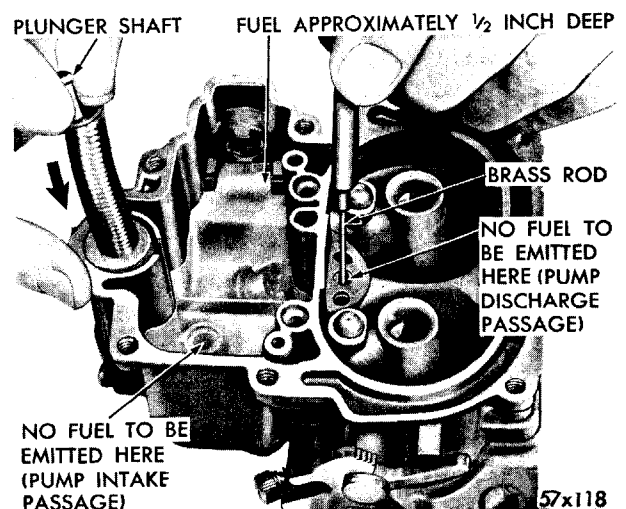

Fig. 18—Testing Accelerator Pump Intake and Discharge Check Balls
(2) Using a small clean brass rod, hold the discharge check ball firmly down on its seat. Again raise the plunger and press downward. No fuel should be emitted from either the intake or discharge passage, as shown in Figure 18.
(3) If any fuel does emit from either the intake or discharge passages, it indicates the presence of dirt or a damaged check ball. The passage should be re-cleaned and then thoroughly blown out with compressed air. Examine the check ball for signs of damage that would not allow the ball to seat properly.
(4) Reinstall check ball and test again. If still leaking, place a piece of drill rod down on ball and rap sharply with a hammer. Remove old check ball and install new ball. Then retest. (This operation forms a new ball seat in the carburetor casting.)